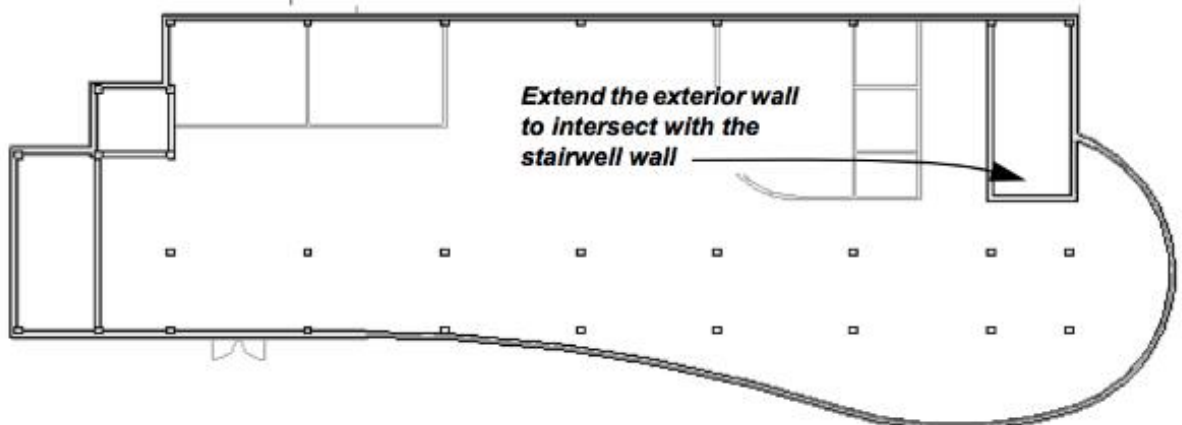

Figure 4–32
6. In the *Modify | Place Wall* tab>Draw panel, click  (Pick Lines). In the main building underlay, select the core center line of the exterior walls and curtain walls, and around the stairs and elevator to create the walls, as shown in Figure 4–32. (Hint: For the stairwell on the right side, create the inner vertical and horizontal wall and then drag the endpoint of the right exterior wall down so that it intersects with the inner horizontal wall).